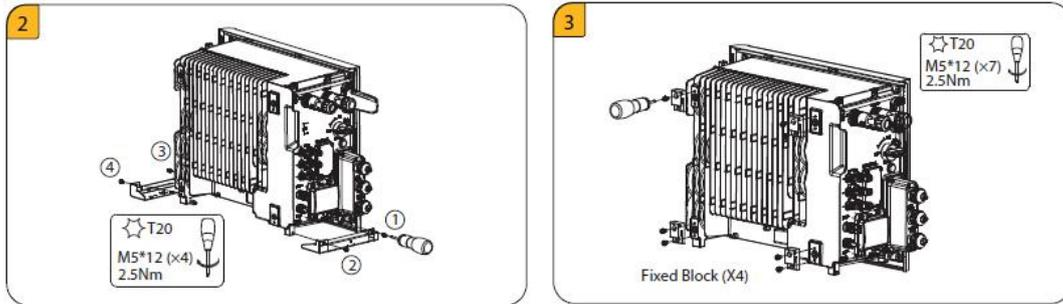

Figure 5-13 Four hooks fixation diagram
3. Use a spirit level to ensure that the wall mount is in a horizontal state. The first step is to mark the hole positions, then remove the wall mount and use a 10mm diameter electric drill to drill holes, and then insert the expansion nuts into the wall. Then place the wall mount in the position that needs to be fixed and fix it with expansion screws (tool: torque wrench SW8, torque 6Nm). Refer to Figure 5-13 below.